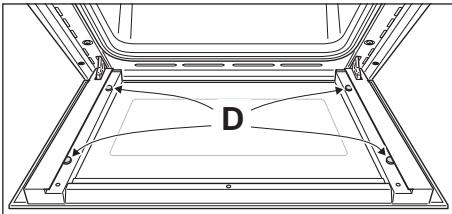

Fig. 8.15a
IMPORTANT: It is advisable, while removing the glass, to keep pressed in position the four rubber pads "D" (fig. 8.15a), by a finger, to avoid breakage or slippage of the rubber pads themselves.
- Check that the four rubber pads are in place ("D" in fig. 8.15a).